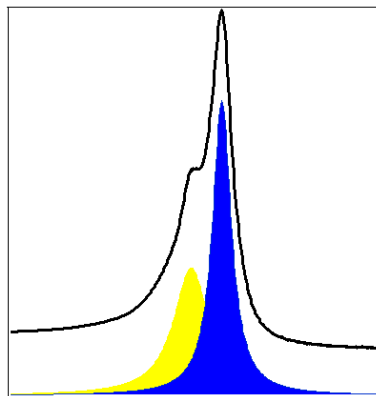

Fig. 7. 'Two Fitted Components' mode.
(4) 'Two Fitted Components' mode: firstly the background of the core level peaks is subtracted by Shirley algorithm, and then the core level peaks without background is fit by using 2 Voigt line shapes, finally the area of the two fit line shapes are used as photoelectron intensities and displayed separately on two patterns. In Fig. 7, the yellow fitted peak at left hand side is Left Component (its right hand side is covered by the blue fitted peak), and the blue fitted peak at right hand side is Right Component.